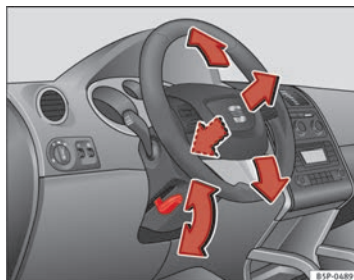

Fig. 135 Adjusting the steering wheel position
- Push the lever under the steering column $\Rightarrow$ Fig. 135 down $\Rightarrow \triangle$.